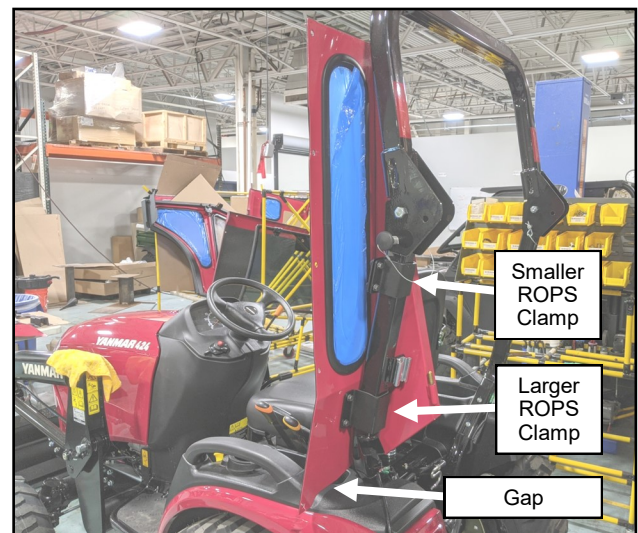

Fig. 3.2 (Install Left Rear Leg)
- 3.2 With help, attach the left rear leg assembly to the lower ROPS clamp as well as adding an upper ROPS clamp. Leave hardware loose at this time. See Figure 3.2. Ensure there is a gap between the rear leg and the fender.